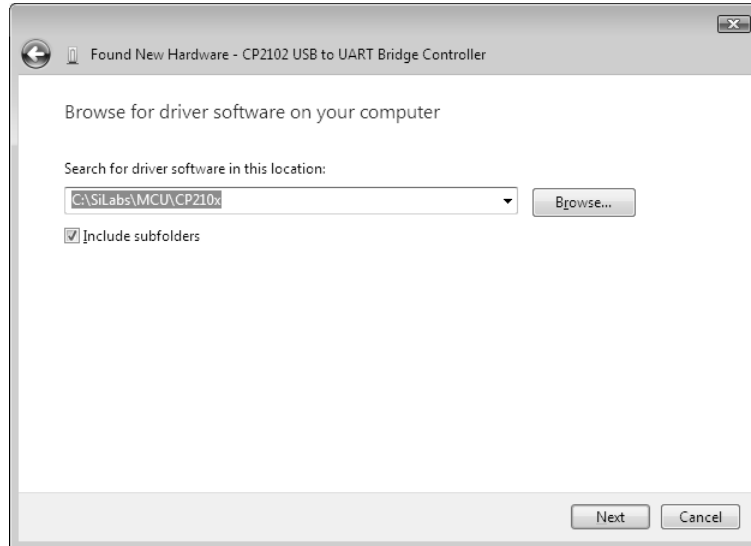

Fig. 51 New Hardware search wizard
- (14) The screen shown in Fig.51 appears. Select **"Search for driver software in this location:"** and input **"C: \SiLabs\MCU\CP210x"** in the blank directly or click **Browse** to select the folder. Also Check the box next to **"Include subfolders"**. If you have installed the driver in a folder different from default setting, select the changed folder.